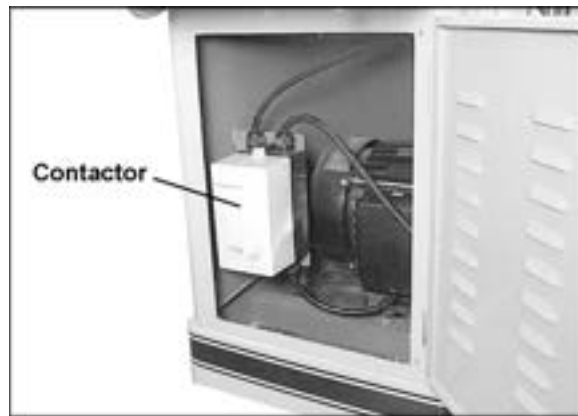

Figure 7
4. Replace the 230-volt contactor (see Figure 7) with the 460-volt contactor (stock no. PJ1285-109B). The 460-volt contactor is available through your authorized Powermatic distributor, or by calling 1-800-274-6848.